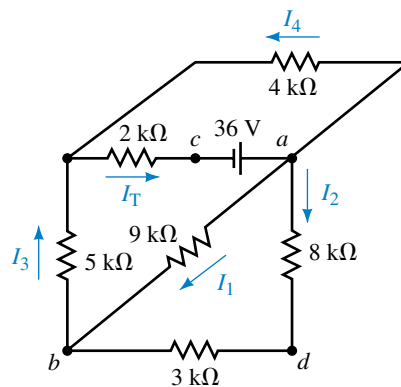

FIGURE 7-55
12. Refer to the circuit of Figure 7-55: